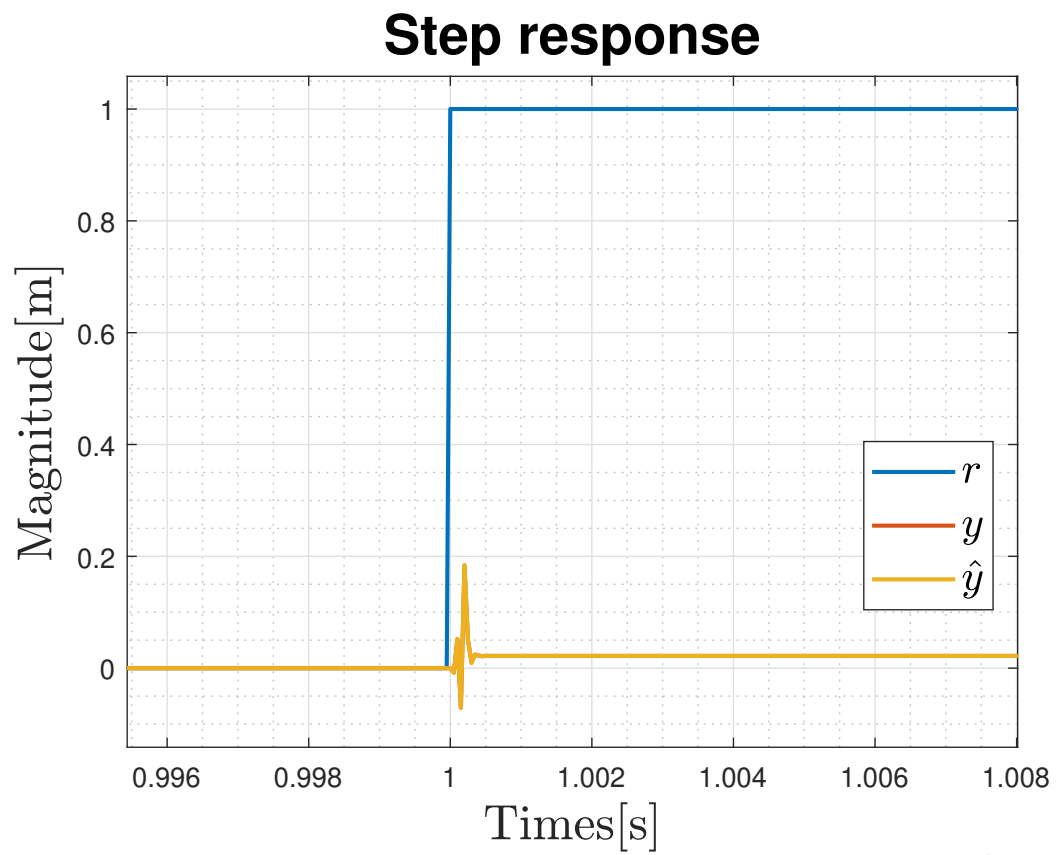

Fig. 5: Step response with LQR : $Q=20 \cdot \text{eye}(5)$, $R = 1$
1. Why did LQR fail? See Fig.5 States don't have physical meaning, then how do we tune Q and R?